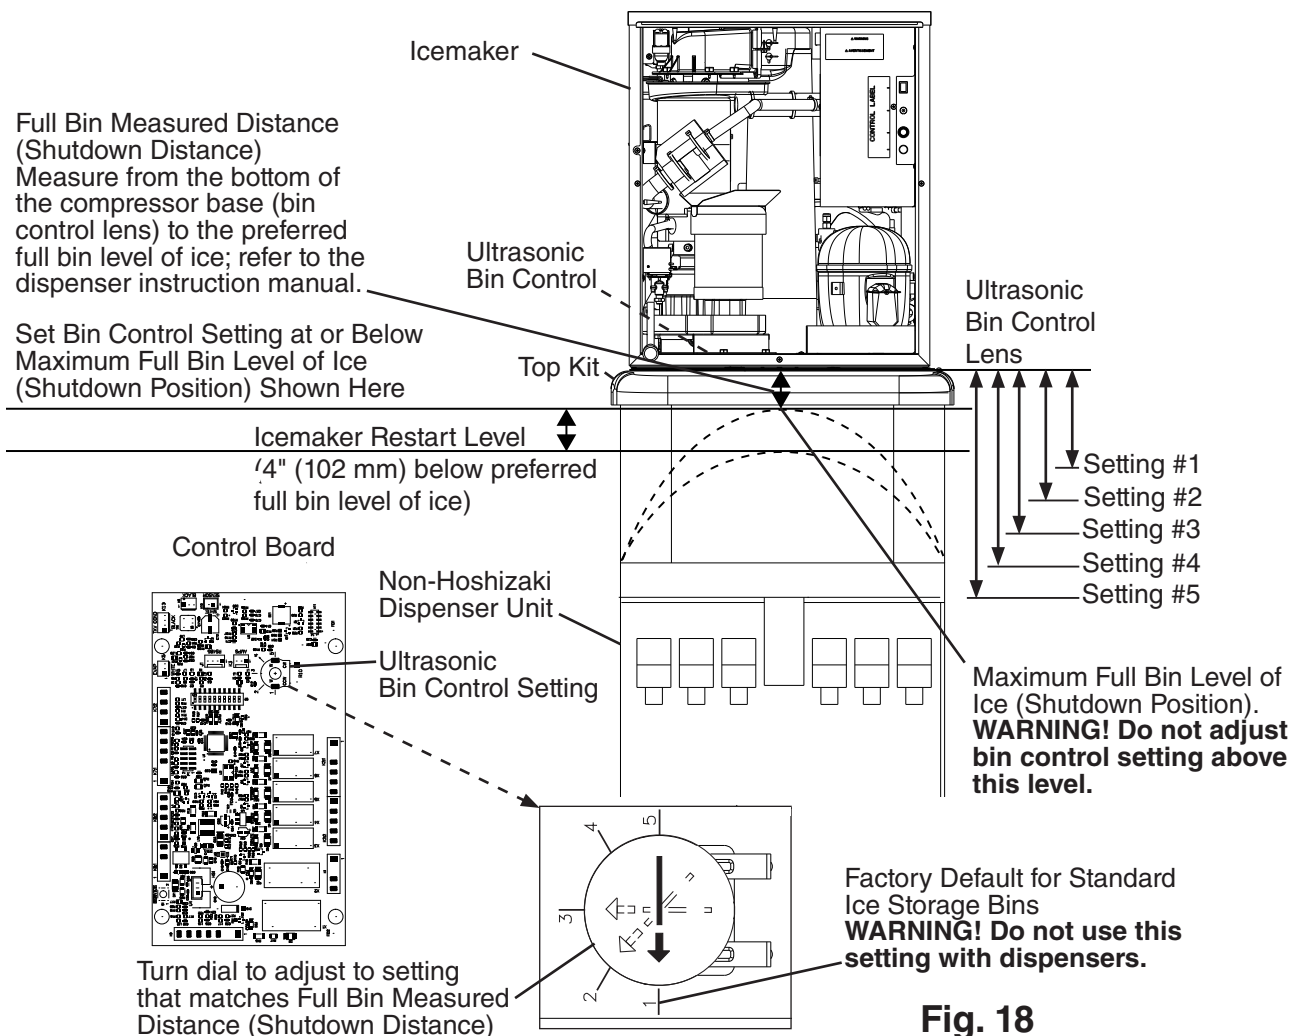

Fig. 18
- 2) Confirm the correct control board bin control setting required for your application and adjust according to the following tables. See Fig. 17 and Fig. 18.